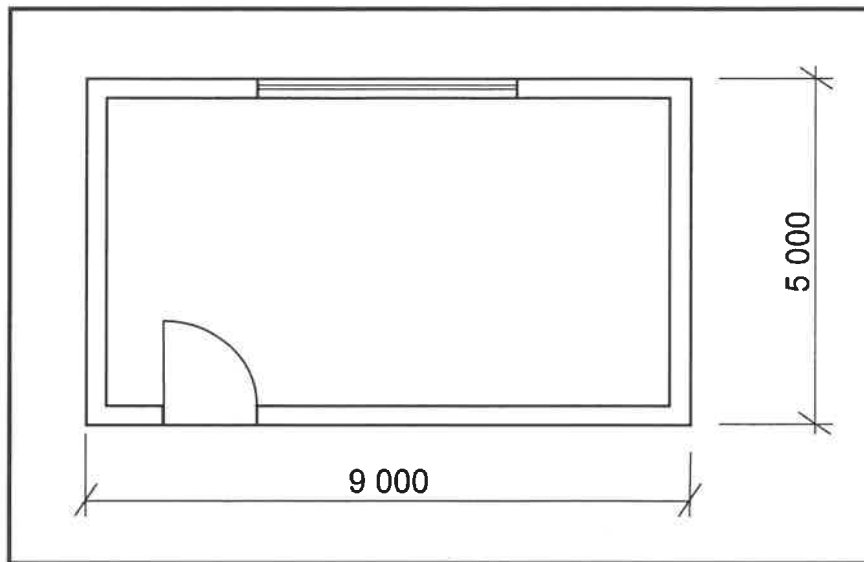

FIGURE 6.7
- 6.7 FIGURE 6.7 below shows the floor plan of a store room with a window and a door.